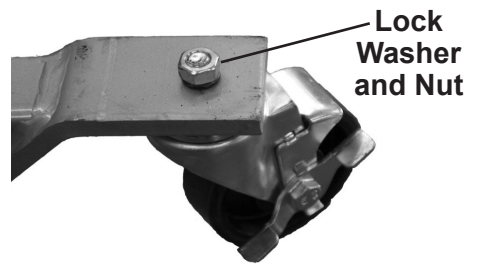

Figure 1
1. Assemble the swivel casters on the jack legs using lock washers and nuts provided. See Figure 1.